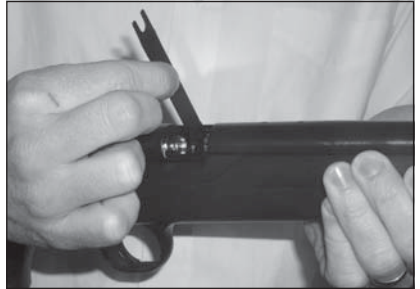

Figure 7
10. **WITH GUN POINTED IN SAFE DIRECTION**, the bolt cocked and the safety in the "safe" (green) position, place a primer into the breech plug. **THE GUN IS NOW LOADED.** (See Figure 7).